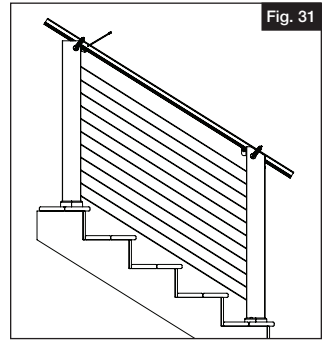

Fig. 31
- 5.** a. Clamp top beam on the side of the stair posts aligning it with the brackets. Mark the beam at the posts (Fig. 31). Cut the top beam on that mark and on that angle.